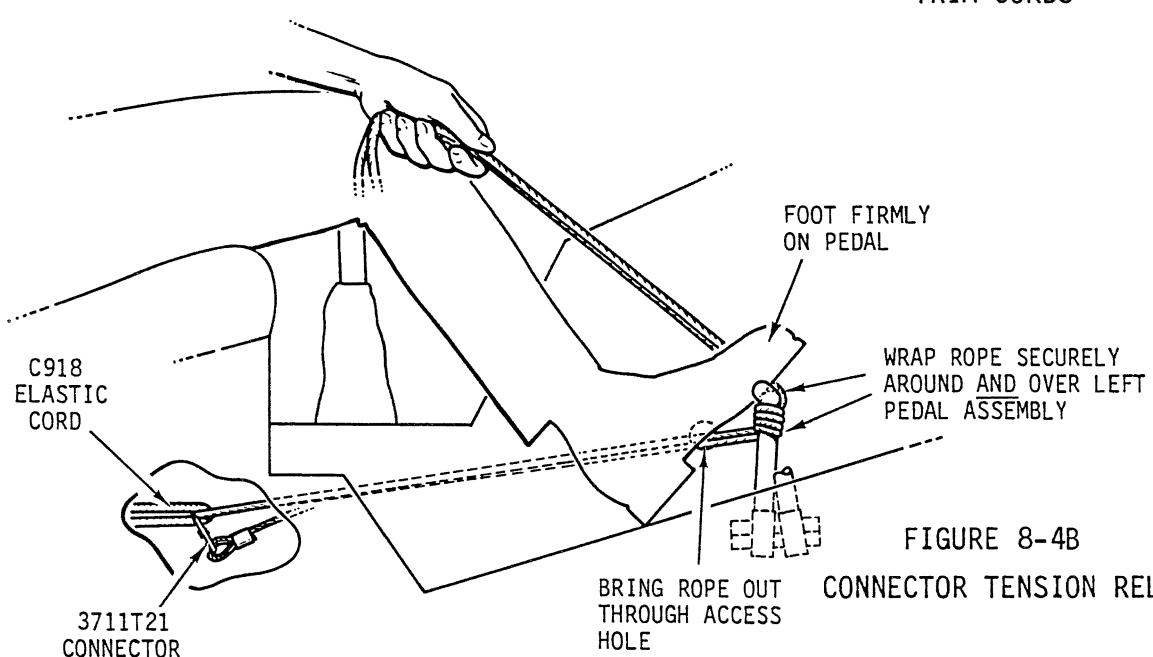

FIGURE 8-4B
- d) Refer to Figure 8-4B. Apply full right pedal. Route one end of an 8 foot length of 1/4 inch diameter nylon rope through right keel panel hole just aft of right side tail rotor pedals, through C918 elastic cord next to 3711T21 connector and back through keel panel hole. Wrap both ends of rope around left pedal and hold securely. Slowly apply left pedal to take up slack on rope and relieve tension on 3711T21 connector. Unhook connector from C918 elastic cord. Let left pedal return slowly full aft.
- c) Refer to Figure 8-4B. Apply full right pedal. Route one end of an 8 foot length of 1/4 inch diameter nylon rope through right keel panel hole just aft of right seat tail rotor pedals, through C918 elastic cord next to 3711T21 connector, and back through keel panel hole. Wrap both ends of rope around left pedal and hold them securely.